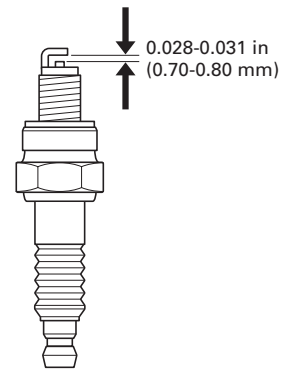

Fig.19
5. Measure the plug gap with the feeler gauge. Correct as necessary by carefully bending the side electrode (Fig.19). The gap should be: 0.028-0.031 in (0.70-0.80 mm)